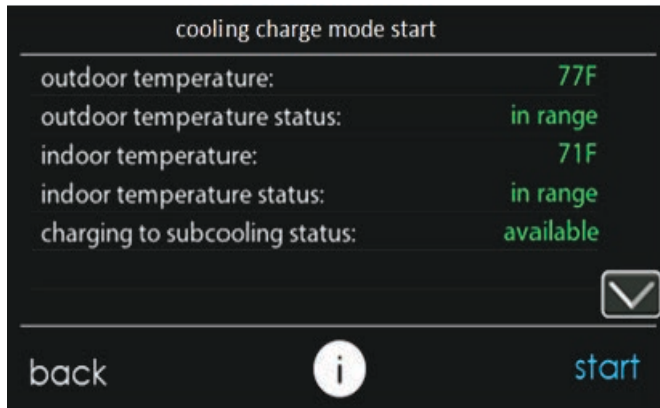
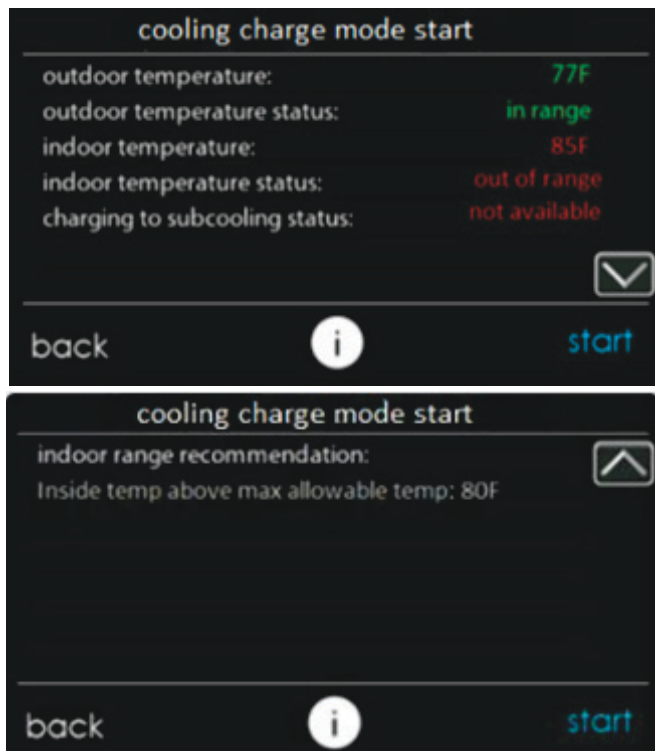

Fig. 18 – Cooling Charge Mode Start Screen - Subcooling Available
Fig. 19 – Cooling Charge Mode Start Screen - Subcooling Unavailable
8. The next screen, “cooling charge mode start” is shown in Fig. 18 or Fig. 19 depending on whether subcooling charging is available. The reason for unavailability of subcooling can be viewed by pressing the down arrow to go to the second page. Before selecting “Start”, verify that the service valves are open. Pressing start will turn on the system at a fixed set of operating parameters in COOLING mode.